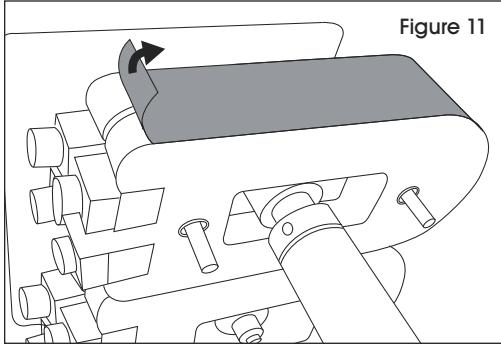

Figure 11
3. With belts removed, peel tape from heating blocks. (See Figure 11)